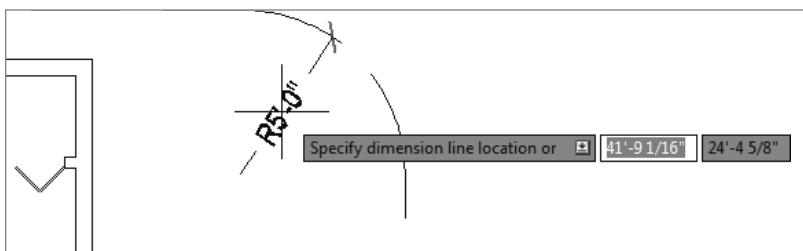

FIGURE 12.33 The radius dimension initially positioned on the curve
3. Click the inside filleted corner well above the midpoint. The radius dimension appears, and the text is attached to the cursor. Where you pick on the curve determines the angle of the radius dimension (see Figure 12.33).